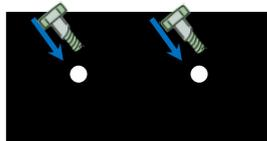

Figure 5-4. Assemble screws for Base Station
Step 6. Insert and tighten the two loop screws into the holes on the bottom of the Base Station as shown from the Figure 5-4.